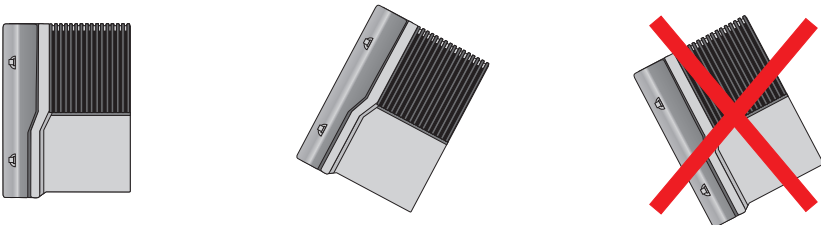

Figure 4-1: Sunny Boy Mounting Positions
- If the inverter is installed outside, it should be mounted vertically (see Figure 4-1).